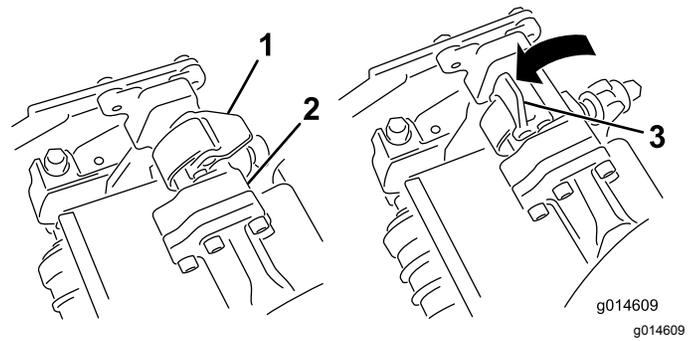
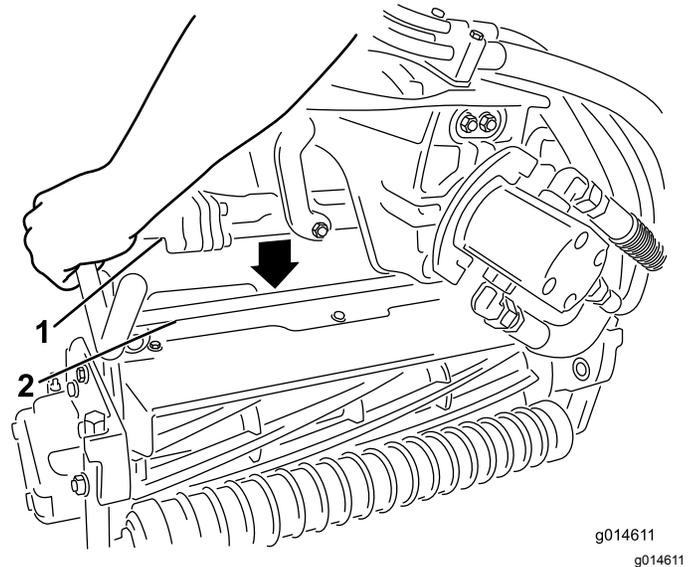

Figure 43
Figure 44
4. Close the latches down and around the cutting-unit bar and lock them in place (Figure 43).
3. With the latches on the suspension-arm bar pointing up (i.e., open) (Figure 43), push the suspension arm down so that the bar fits over the bar across the top of the cutting unit (Figure 44).
4. Open the latches on the suspension-arm bar of the cutting unit you are removing (Figure 43).